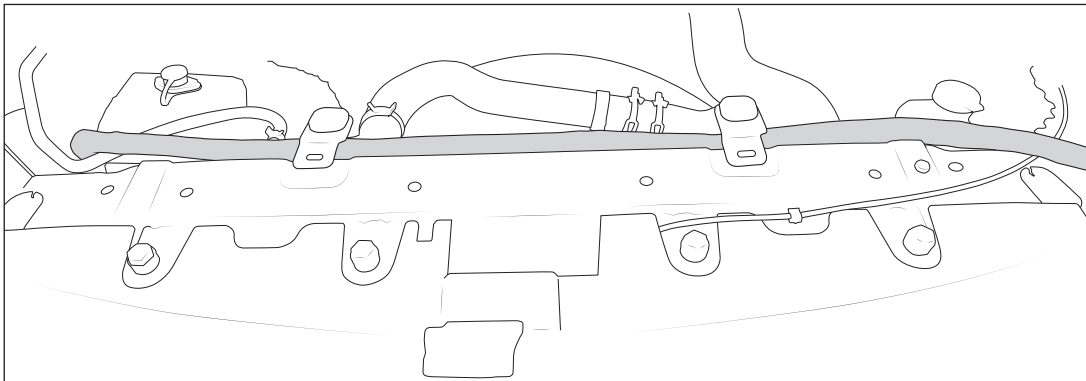

Figure 13
6. Run the wiring loom over the radiator overflow hose and across the front of the vehicle. Detach the radiator supports to run the loom underneath as shown (fig. 13) then reinstall fasteners.